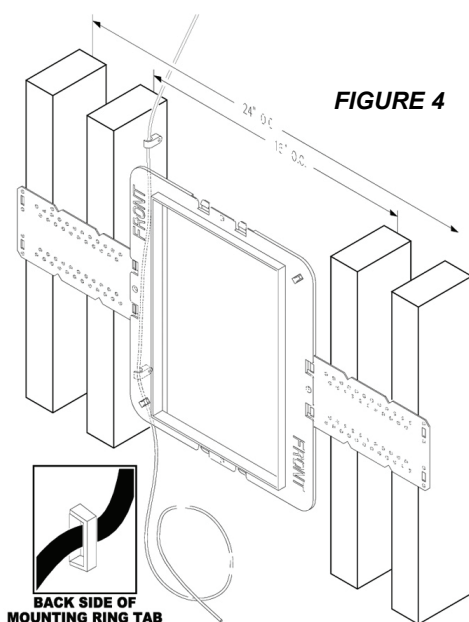

FIGURE 4
Step 3. After you have determined the speaker locations using the guidelines above, secure a 16 gauge 2 conductor cable to the mounting ring tabs (see figure 4), such as the M&S Systems MS16X, for attachment to the speakers after the dry wall has been installed. Leave at least 18 inches additional cable for the connection during final speaker installation. Run the other end of the speaker cable to the audio source.